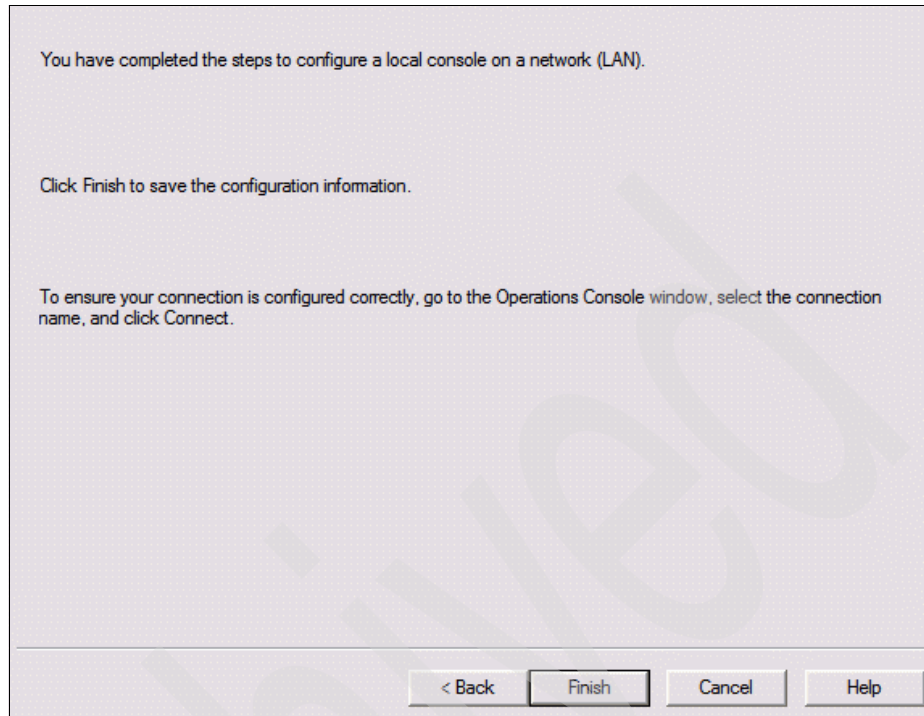

Figure 7-45 IBM System i Operations Console - finalizing the setup
11. Figure 7-45 on page 283 shows the final window that is displayed after you define the information for an IBM System i Operations Console.